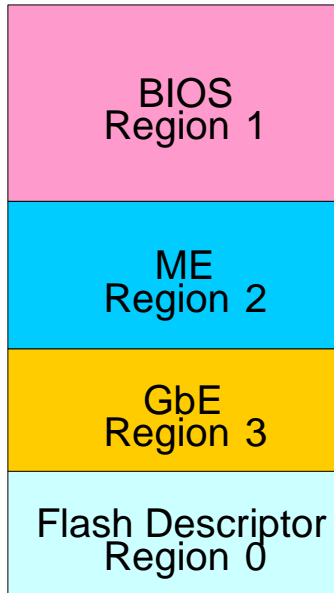

Figure 1. LAN NVM Regions
The LAN NVM shares space on an SPI Flash device (or devices) along with the BIOS, Manageability Firmware, and a Flash Descriptor Region. It is programmed through the ICH9. This combined image is shown in Figure 1. The Flash Descriptor Region is used to define vendor specific information and the location, allocated space, and read and write permissions for each region. The Manageability (ME) Region contains the code and configuration data for ME functions such as Intel® Active Management Technology, ASF, and Advanced Fan Speed Control. The system BIOS is contained in the BIOS Region. The ME Region and BIOS Region are beyond the scope of this document and a more detailed explanation of these areas can be found in the *Intel® I/O Controller Hub 9 (ICH9) Family External Design Specification (ICH9 EDS)*. This document describes the LAN image contained in the Gigabit Ethernet (GbE) region. Fast Ethernet (**82562V**) images are also described.